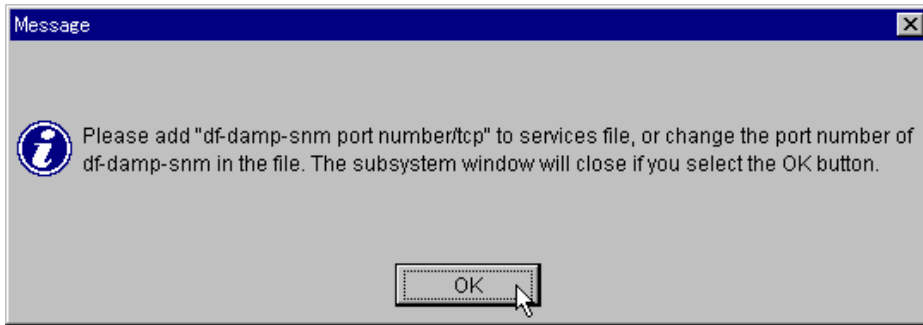

Figure 5.30 Add to Services File
9. Click **OK** on the **Add to Services File** dialogue box (see Figure 5.30).